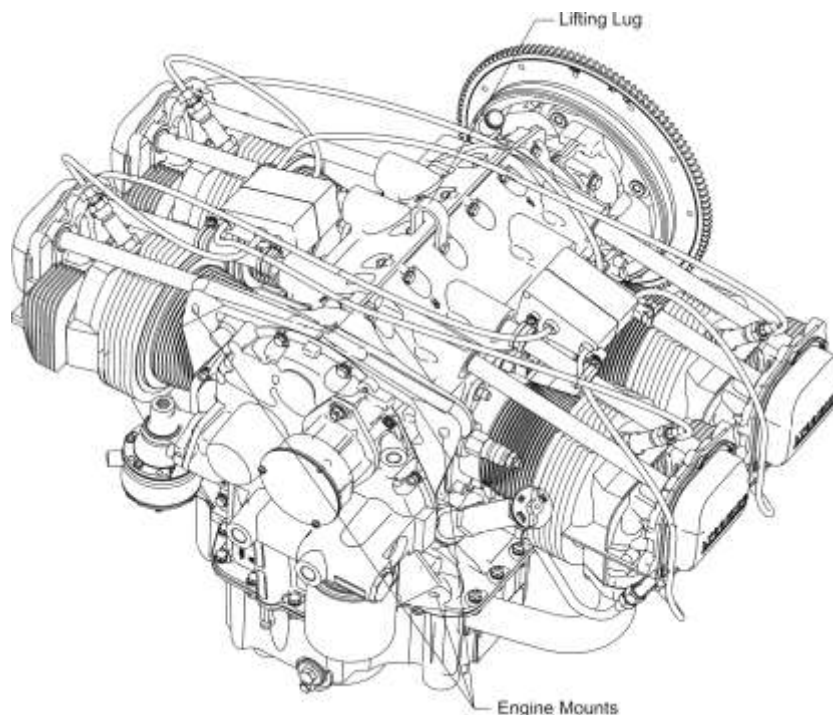

Figure 1
- (10) Disconnect the positive terminal of the battery.
- (11) Disconnect the engine from the alternator.
- (12) Remove the baffling as required.
- (13) Drain the oil as described in the “Oil Change Procedure” in Chapter 12-10.
- (14) Remove all wiring bundle attaching clamps and hardware.
- (15) Install and torque the oil sump drain plug in accordance with the latest revision of the *Service Table of Limits - SSP-1776*. Safety the drain plug
- (16) Disconnect the throttle control in accordance with the airframe manufacturer’s instructions.
- (17) Remove the manifold pressure gage line and airframe fuel supply hoses in accordance with the airframe manufacturer’s instructions.
- (18) Refer to the airframe manufacturer's instructions to disconnect any accessory connections or to remove any external accessories to enable removal of the engine from the airframe.
- (19) Make sure that all wires, lines, and hoses and attachments between the engine and airframe are disconnected.
- (20) Attach an engine-lifting cable (with a minimum capacity of 250 to 300 lb (114 to 136 kg) to the lifting lugs on the engine in accordance with Figure 1.